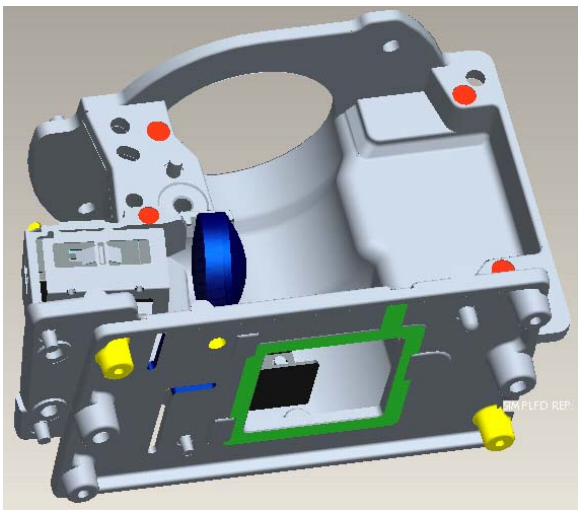

Fig. 9-1
9.1 Placed “AL” on the HSG DMD .The “raised surface” of “AL” shall toward “DMD direction” (Fig. 9-1)